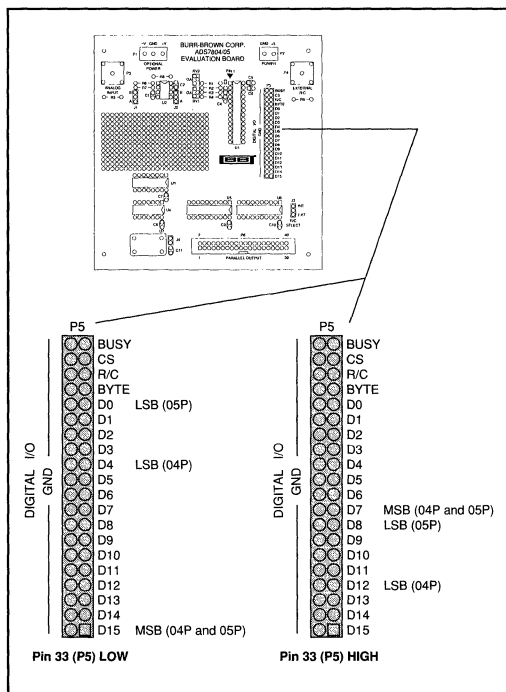

FIGURE 10. Location of MSBs and LSBs on P5.
A) P5 outputs byte-reading and full parallel data — See Figure 10.
Factory Setting: Pin 33 jumpered to pin 34 (P5), P5, P6, U4, U5, U6, C8, C9 and C10 soldered to the board (See Figures 10, 11, and 12).